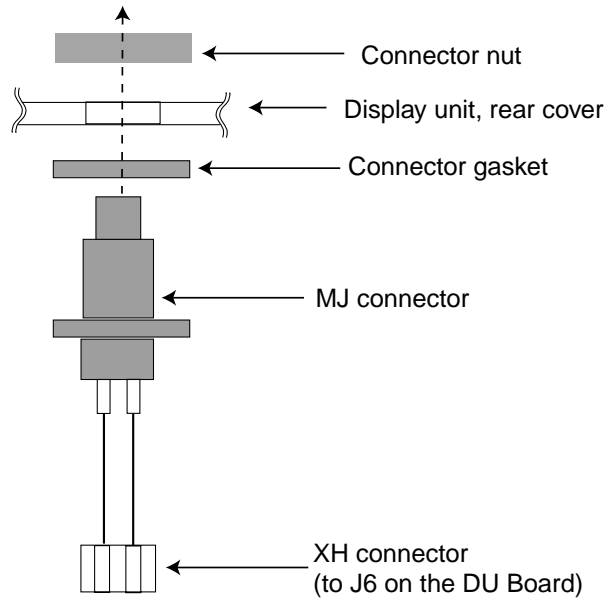

Figure 17 Fixing MJ-XH connector assembly
3. Insert the MJ connector (supplied as option) in the hole made at step 2 as shown in Figure 17. And then fasten the connector nut with 0.76-0.78 N•m torque.